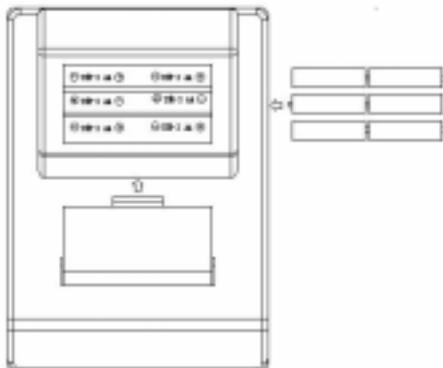

FIGURE 4
2. The battery compartment is located at the bottom side of the meter (Refer to Figure 4).